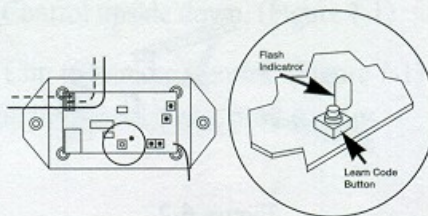

Figure 5-1
Step 1 • **LOCATE** the Receiver Learn Code Button. (Figure 5-1)